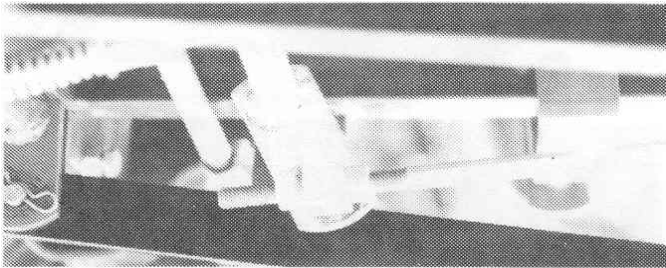
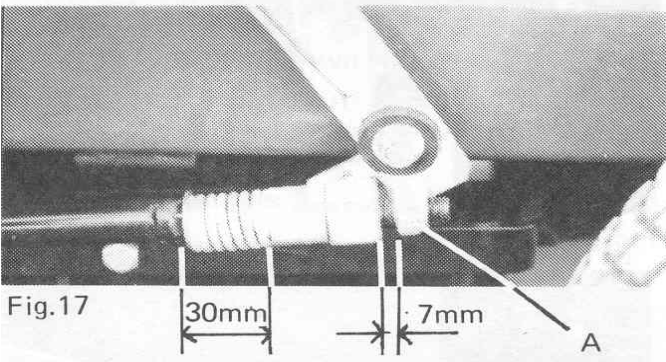

Fig. 16
Fig.17
3. Adjust Push Rods Fig.16 to give a spring compression of 30mm, Fig.17.
4. Adjust Locknut 'A' to give 7mm clearance to back of swivel block Fig.17